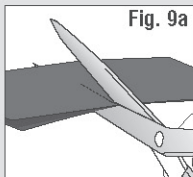

Fig. 9a
- Lay the two sheets on top of each other and cut a notch halfway up both sheets (Fig. 9a).